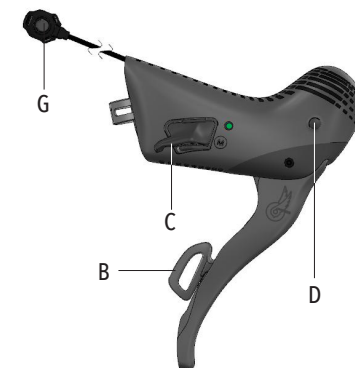

Fig.9
- By pressing the Thumb shifter, the front derailleur shifts down (C - Fig.9).
- By pressing on the Shift lever, the front derailleur shifts up (B - Fig.9).
- By pressing on the Smart button, the rear derailleur shifts up (D - Fig.9).
- By pressing on the satellite button the rear derailleur shifts up (G - Fig.9).